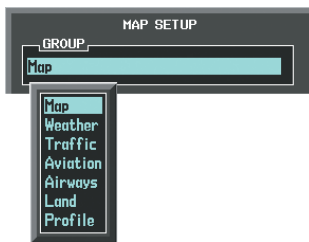

Figure 6-129 Navigation Map Page Setup Menu
- 4) Turn the small **FMS** Knob to select the 'Map' Group and press the **ENT** Key (Figure 6-129).